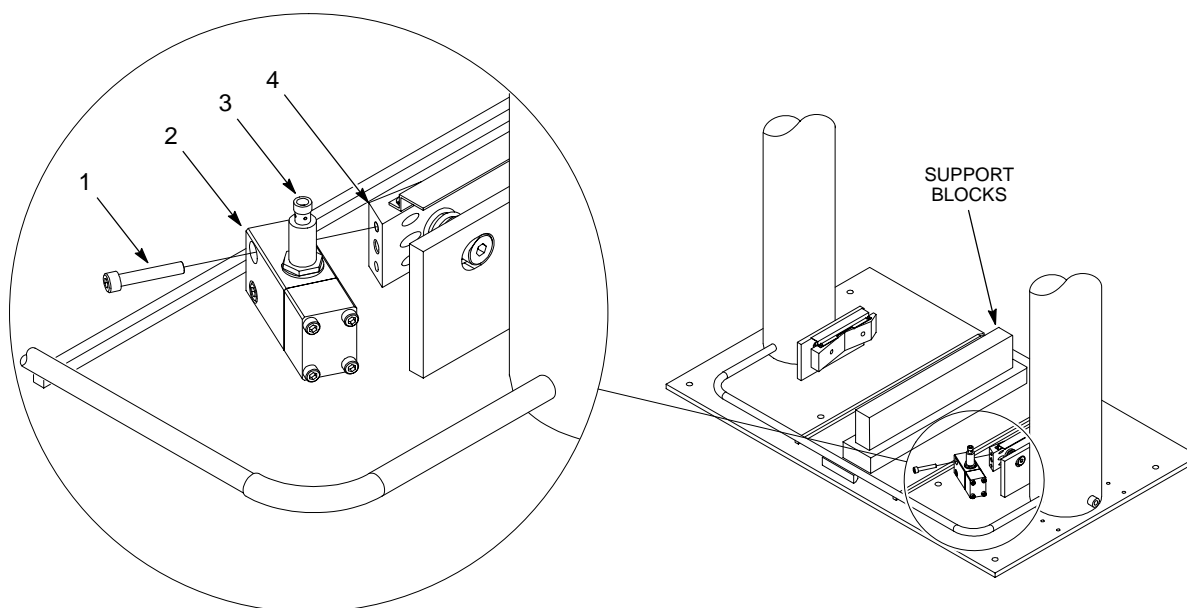

Figure 2 Two-Post Drum Position Sensor
1. See Figure 2. Apply Loctite to the threads of the screws (1). Install the drum position sensor (2) onto the hold down shoe (4) using the screws. Tighten the screws securely.
2. Connect the cable from the controller to the proximity sensor (3).
If the follower plate or heated platen needs to be lowered and a drum is not positioned on the frame, place support blocks on the frame base as shown in Figure 2 to prevent damage to the drum position sensor.